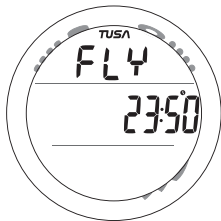

Fig. 54 - TIME TO FLY
**Time to Fly** information includes (Fig. 54):